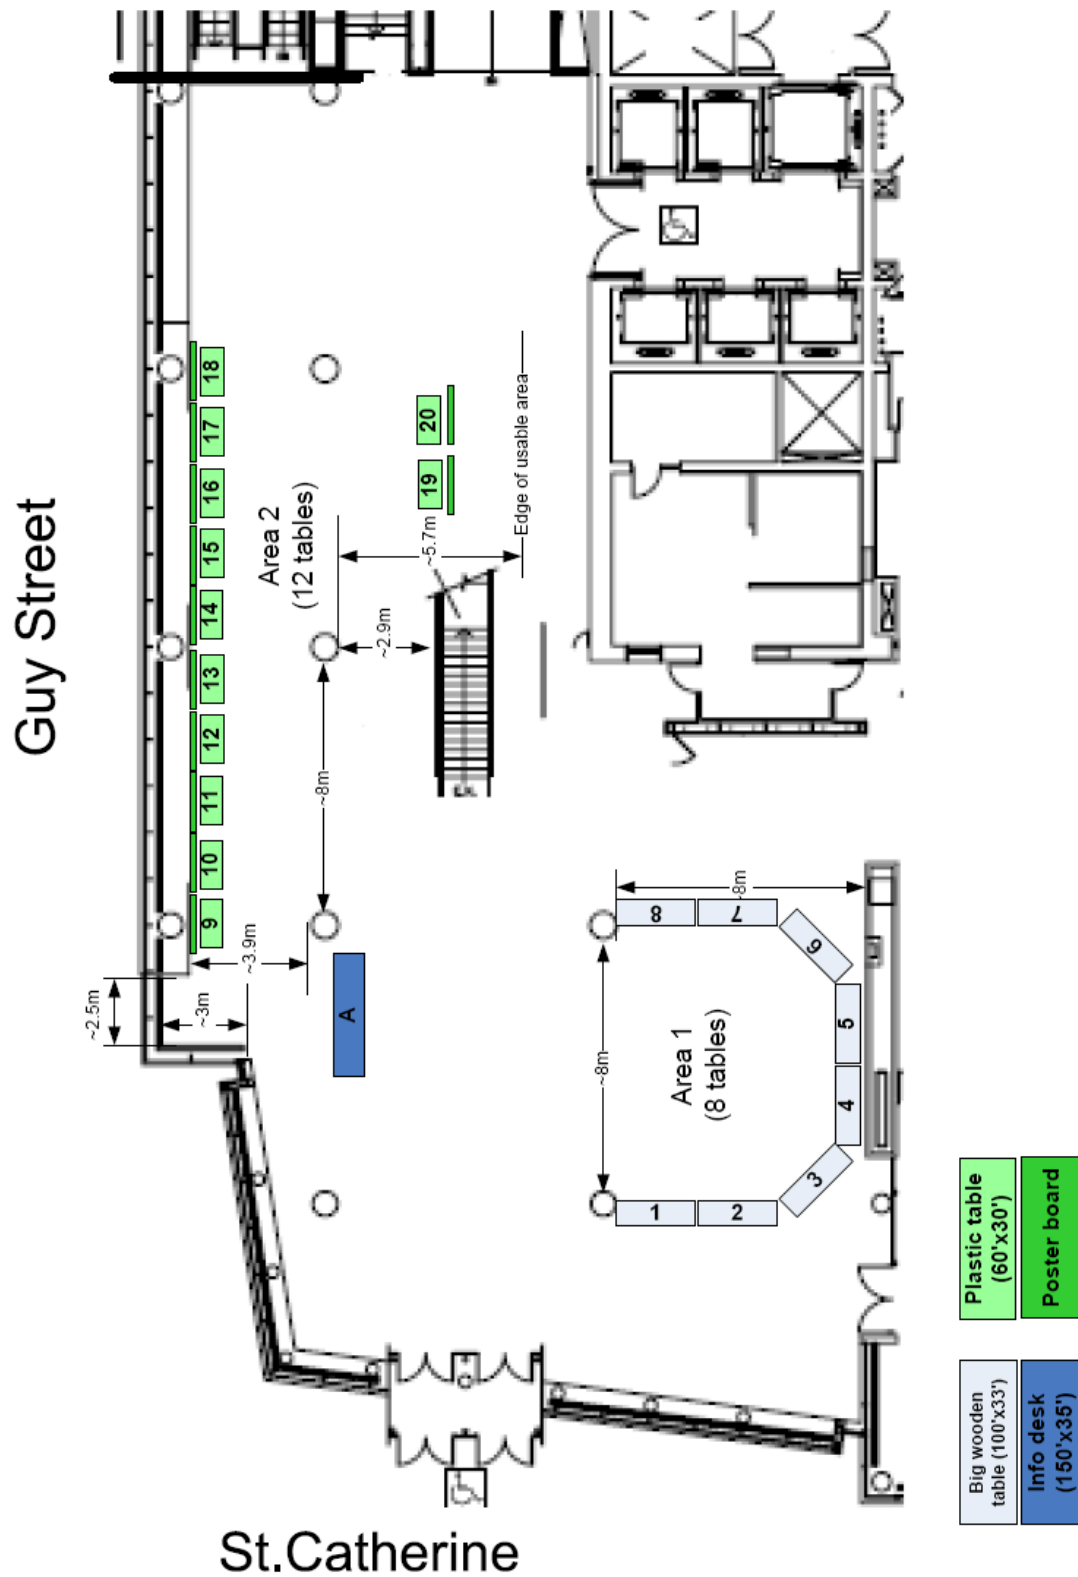

Figure 1: Tentative sample of final presentation floor plan
5. Location requirements. If you wish to have a nice view from the window behind you, please specify the desired location and justify the need (ex.: bulky equipment located on the street, a camera pointed at the specific point, etc.). To get an idea of what is available see the detailed floor plan (Fig. 1).